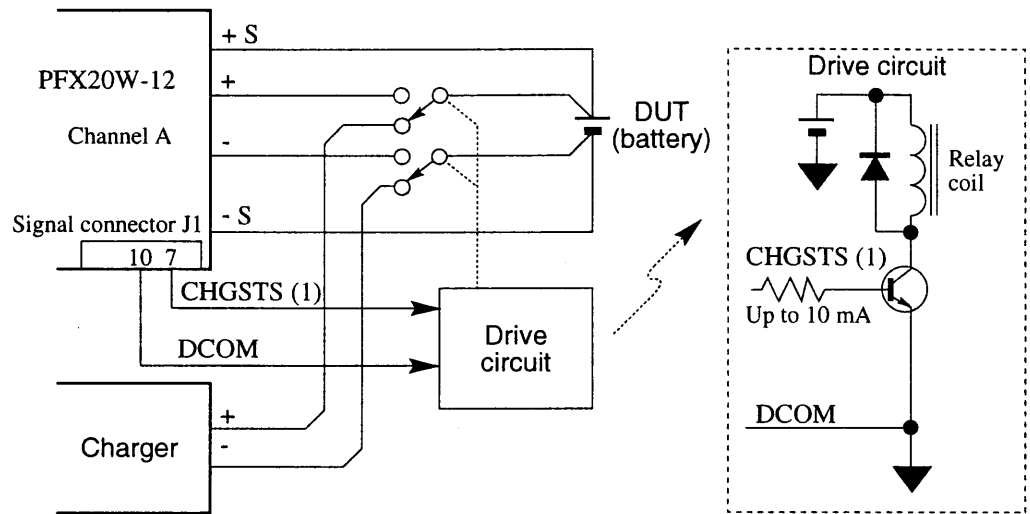

Fig. A-7 Connection for Synchronized Operations with an External Charger
- If an external charger does not have a function to automatically cut off the connection to a battery when charging is complete, a relay must be added, as shown in Fig. A-7.